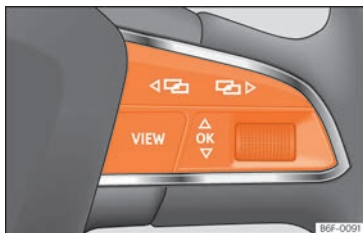

Fig. 137 Right side of multifunction steering wheel: buttons to the menus and informative indications on the instrument panel.
As long as a priority 1 » page 110 warning is active, it will not be possible to access any menu. Some warnings can be confirmed and hidden with the button **OK** of the multifunction steering wheel » **Fig. 137**.
- If a message or vehicle symbol is displayed, press the button **OK** » **Fig. 137**; if necessary, several times.
- To change menus, use buttons **<** or **>** » **Fig. 137**.
- To open the menu or the information displayed, press the button **OK** » **Fig. 137** or
- In the menu displayed, turn the right thumbwheel of the multifunction steering wheel » **Fig. 137** until the desired option of the menu is highlighted. The option appears framed.
- Press the button **OK** » **Fig. 137** to make the required modifications. A mark indicates that the system or function is activated.
Press the button **<** or **>** » **Fig. 137**.